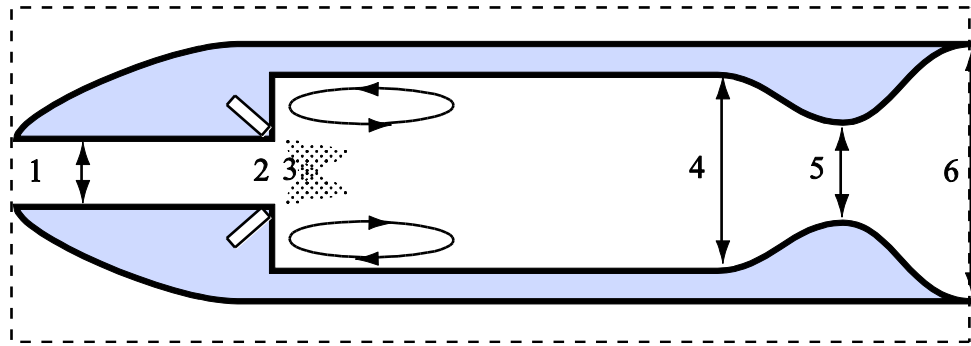

Figure 1: ramjet schematic
A ramjet engine flow path is to be specified having a geometry as shown in Fig. 1.
2. Apply conservation of momentum on a control volume that is shown in Fig. 1. Define thrust, specific thrust, TSFC, etc. based on this control volume.